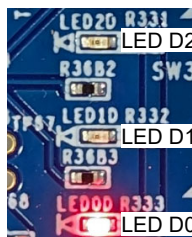

Figure 5. Error Indication
7. If LED D0 light is on as shown in Figure 5, Operating mode/Battery configuration is not matched to actual system configuration. Check SW1, SW3, and SW1B setting and actual system configuration.
8. If LED D0 light is on as shown in Figure 5, Operating mode/Battery configuration is not matched to actual system configuration. Check SW1, SW3, and SW1B setting and actual system configuration.